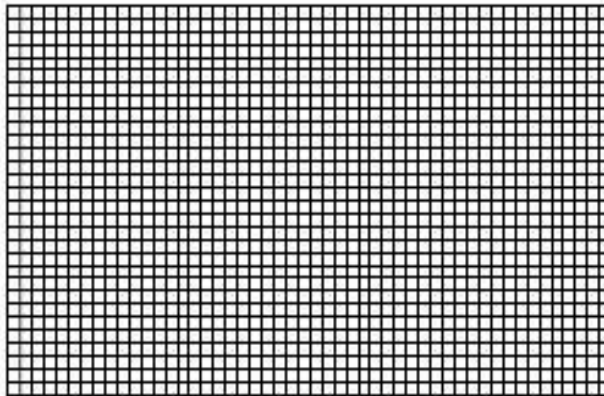

Fig. 2.1
- (II) Use the grid in Fig. 2.1 to plot the extension-load graph for this wire for a load between 0 and 45 N.
- (b) Use the graph plotted in Fig. 2.1 to determine the load needed to produce an extension of 1.3 mm.